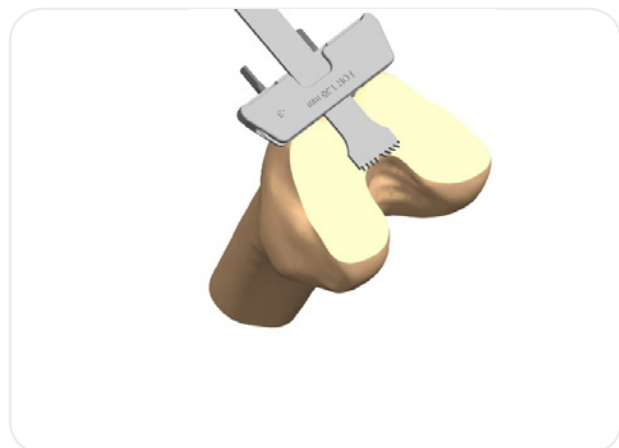

Figure 66
3. Resect the distal femur (**Figure 66**) then remove the distal femoral cutting block.